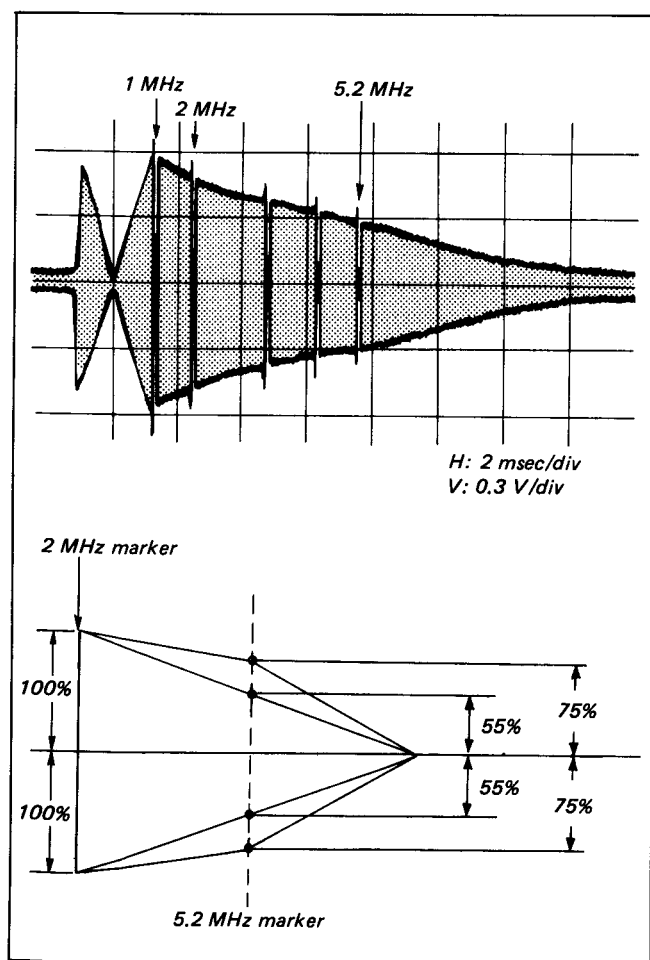

Fig. 5-12. Playback amplifier frequency characteristic adjustment
- ii) Adjust RV2 to make the 2 MHz amplitude of A and B channels equal. (See Fig. 5-12)